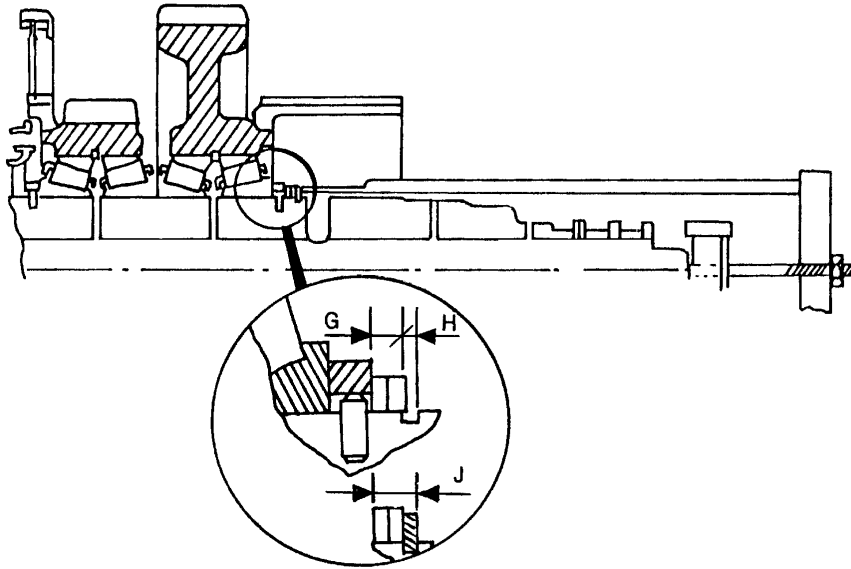

Fig. 7C.37. First and Third Bearing Adjustment
12. Place two thick shims (28) (G, Fig. 7C.37) on bearing retainer (30) so that top face of shim is above bottom edge of retaining ring groove. Place clutch bridge assembly (refer to SERVICE/ SPECIAL TOOLS in this Section) on top of shims. Torque bridge nut to 20 [Nm].
13. Tap rim of first gear in several places with a soft faced hammer while rotating first gear. Retorque nut to 20 [Nm]. Tap and rotate gear until torque stabilizes. Measure distance from top face of shim to upper edge of retaining ring groove. Record this dimension (H, Fig. 7C.37). Measure ring thickness G. Remove bridge assembly. Stone both sides of retaining ring (27).